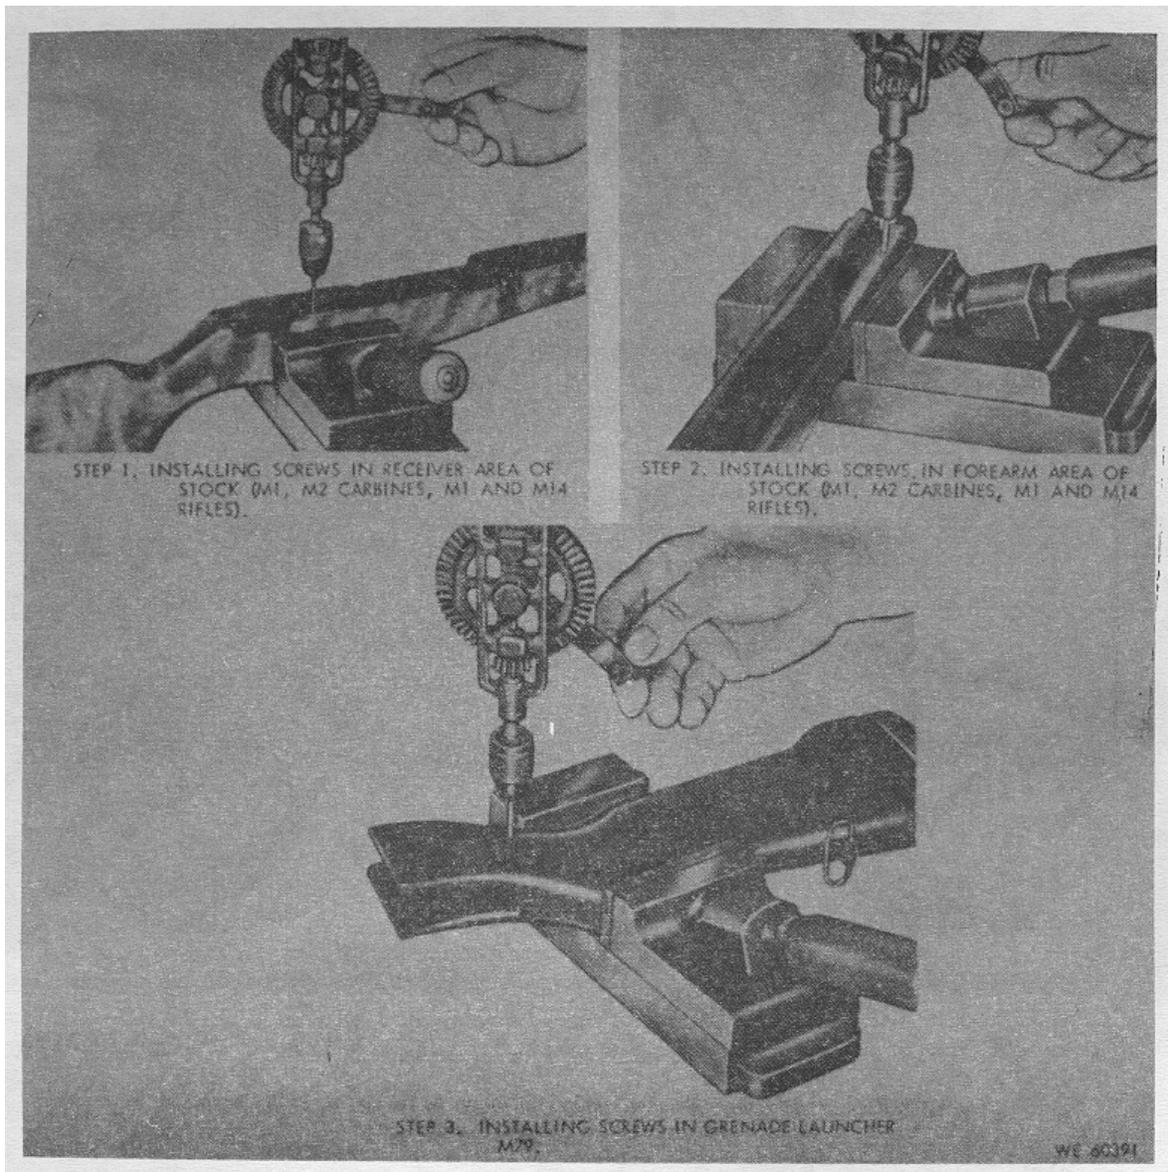

Figure 3-4. Repairing damaged wooden stocks using reinforcing screws.
d. Install applicable screw by gripping in the chuck of a hand drill and insert in component being repaired (fig 3-4).